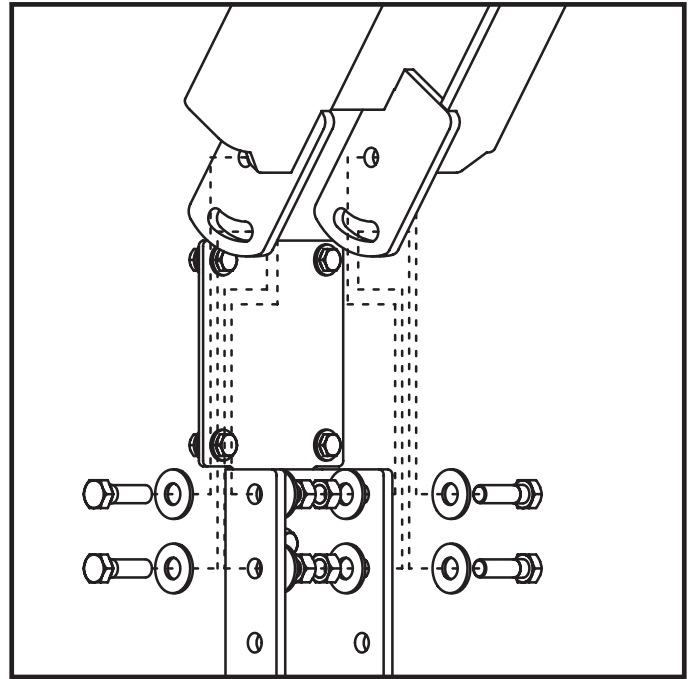

Figure 2. Railcar Vibrator Storage Stand & Cart Connection of Assembly to Wedge Weldment
3. Attach wedge weldment onto upper assembly using supplied hardware. Secure wedge weldment into place at desired angle. Possible angle configurations are 0° to 35°. (Refer to Figure 2 & 3.)